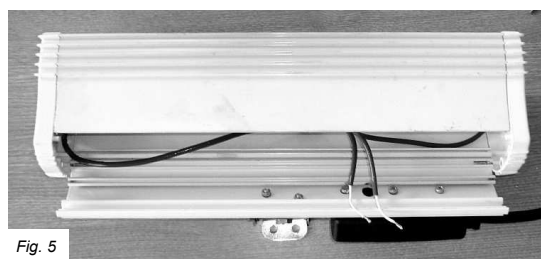

Fig. 5
6. Gently pull the lamp wires through the back plate of the heater so the wires exit the terminal box (Fig 5).